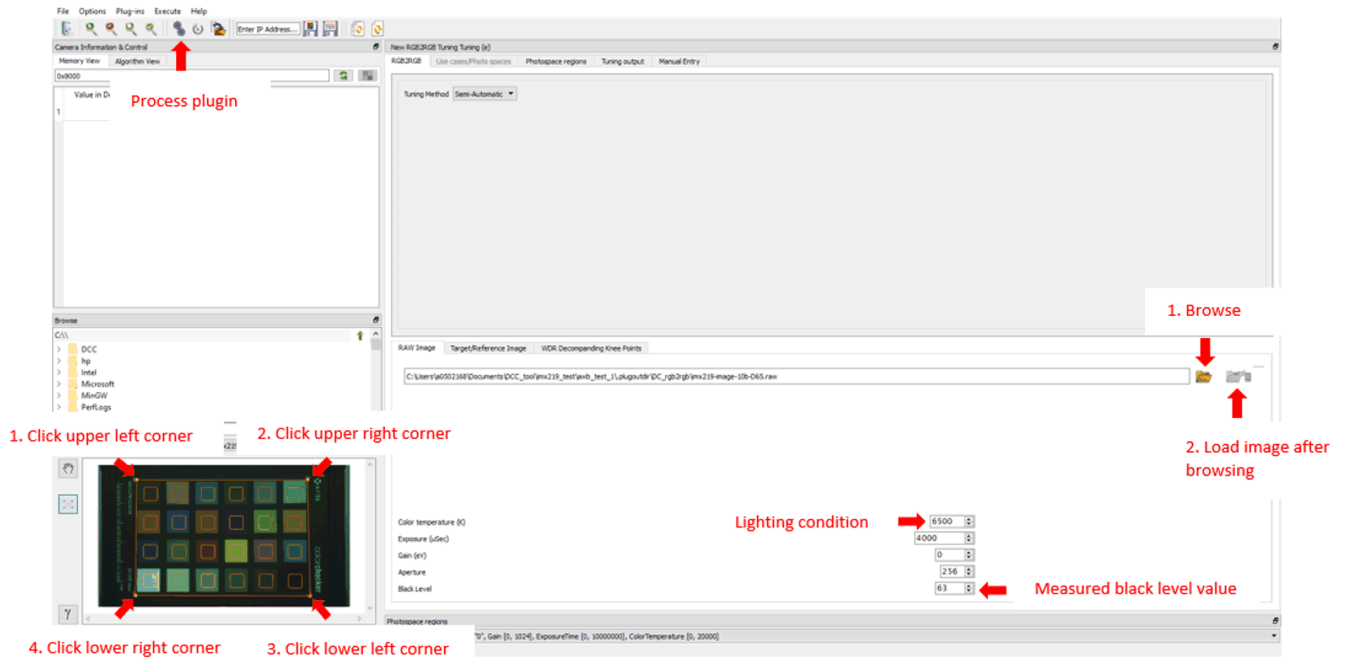
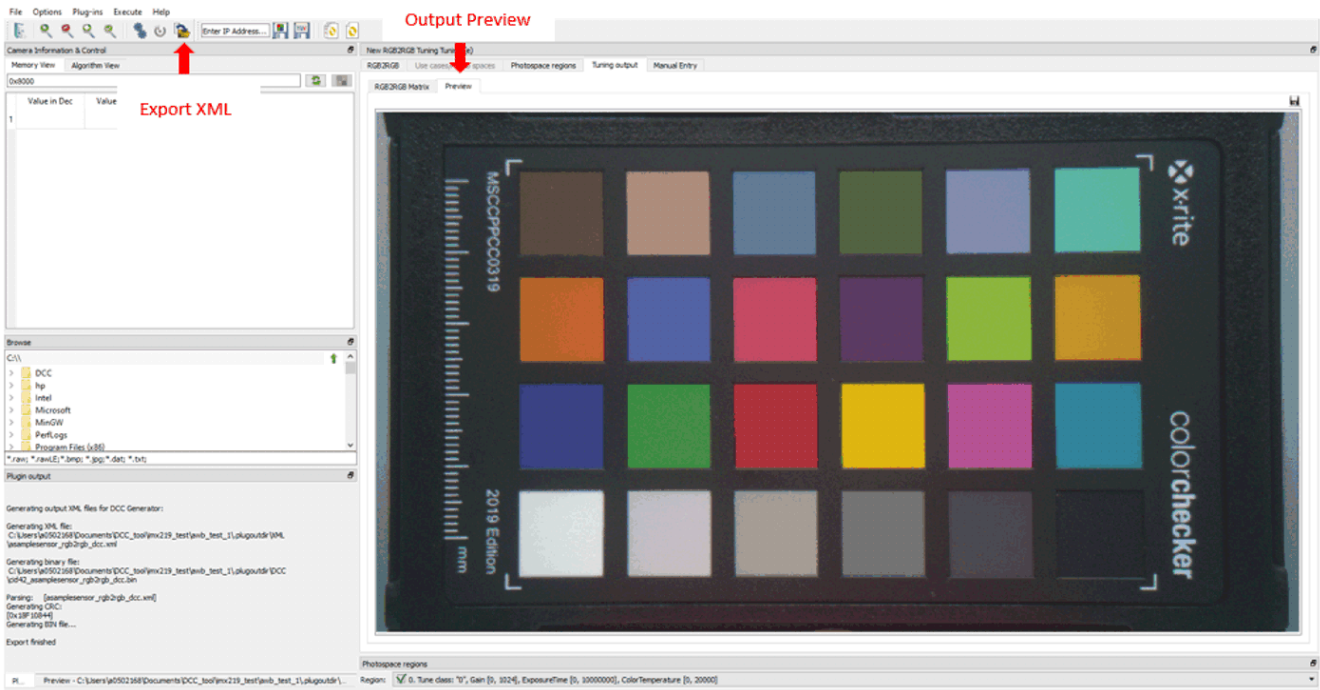

Figure 7-20. Color Correction Tuning
Figure 7-21. Color Correction Tuning Output
- Process the plug-in and *Export DCC profile binary* to generate XML and binary files, as shown in Figure 7-20 and Figure 7-21.